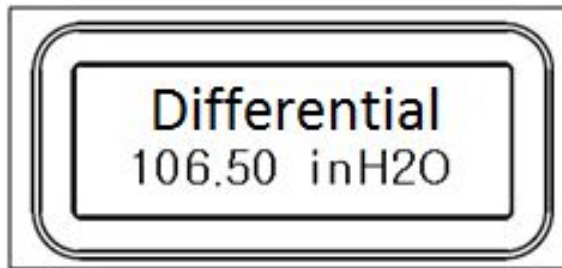

Figure 20 – ST 700 Standard Transmitter - Basic Display with Process Variable Format
Figure 20 illustrates the basic display format with Process Variable (PV).